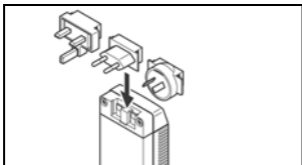

Fig. 3 SNT-121A AC Adapter/Charger Unit.
2. Slide the AC line plug adapter into the slot (see Fig. 3).
3. Slide a different AC line plug adapter into the slot (see Fig. 3).